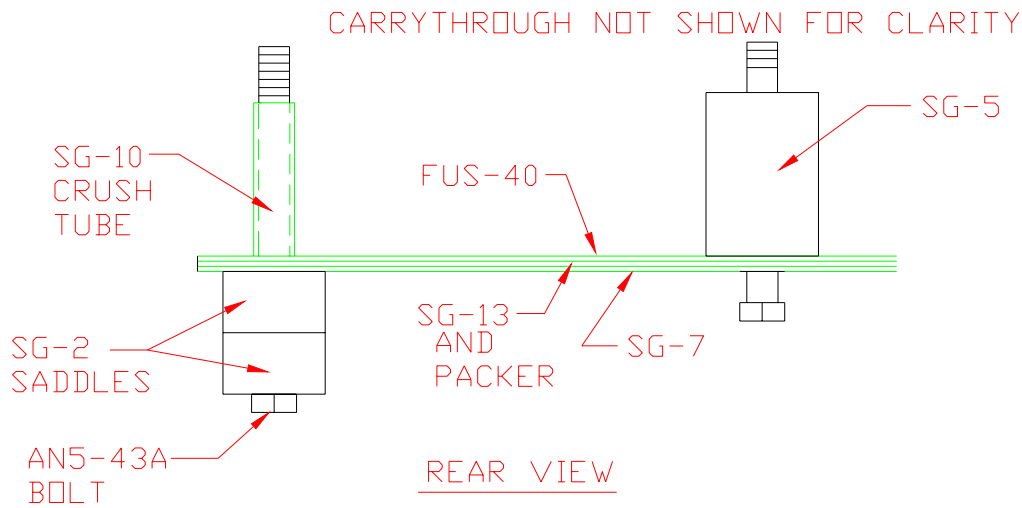

Figure 14.3.2
- 12) Assemble the parts as per Figure 14.3.2. You can use tape to hold the bolts in place so they don't drop back down. Cleco the assembly back onto the bottom of the aircraft using plenty of clecos.